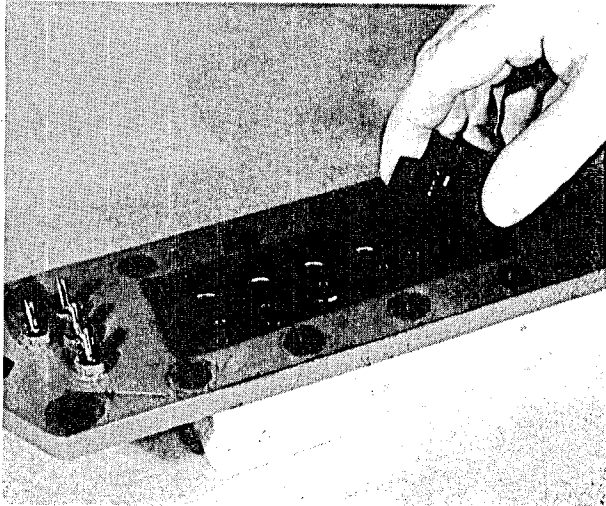

Figure 37
2. Oil the large insulator "O" rings and install the "O" rings to the lower insulators using an upper insulator to push them in place (Figure 37).